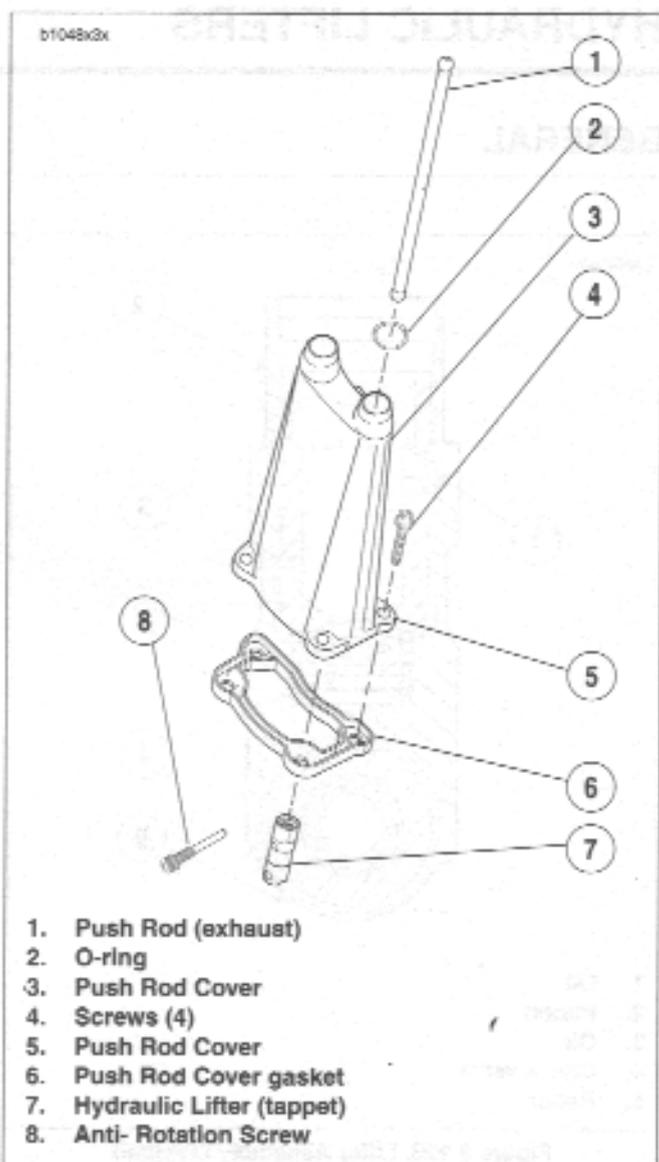

Figure 3-125. Valve Lifter Service
4. See Figure 3-125. Remove push rod covers.
- See Figure 3-125. Insert lifter into bore in crankcase. Rotate lifter so that flats at upper end of lifter face the front and rear of the engine. If the lifter is installed incorrectly, anti-rotation screws cannot be inserted.
- See Figure 3-125. Install push rod cover.